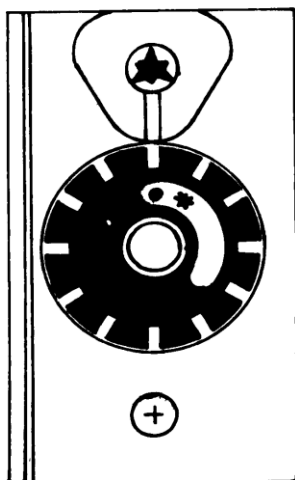

Fig.1
- See Fig.1 – the regulating button is in the position “closed”.
- The heater is switched off turning the regulating button to the position “closed” (Fig.1).